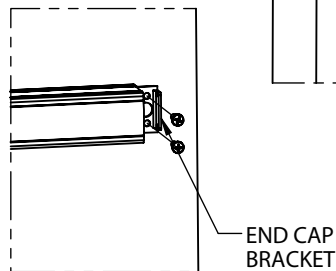

FIGURE 10-4
- E. Place the end cap bracket inside the back end of the exit device. Mark the hole locations. For metal doors, drill and tap for 1/4" - 20 machine screws. For wood doors, pre-drill 1/8" holes. For sex bolts, drill 5/16" clearance holes on exit device side (push side) and 3/8" clearance holes on pull side (see Figure 10-4). Attach the end cap bracket to the door.